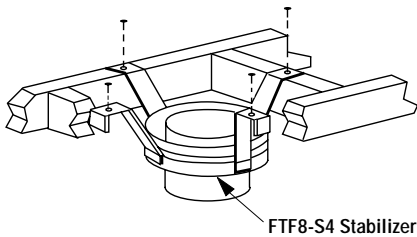

Figure 29
Install the Model FTF8-S4 stabilizer by fitting inner section down into respective section of proceeding flue pipe and locking outer stabilizer section into place over the outer chimney pipe. Position for proper clearance through framed opening and nail straps securely (under tension in "shear") into place on framing. Use 8d nails. Attach successive lengths of chimney pipe directly to stabilizer using same techniques as described in Step 4 (**Figure 29**).
Step 1. Use Offset Chart to determine amount of horizontal offset (A) and height (B) for various chimney section assemblies.
Step 3. Use Elevation Chart as job estimator only. Add necessary firestop spacers and stabilizers as required. Firestop spacers must be used as shown in *Figures 23 and 24* and stabilizers as shown in *Figure 29*.